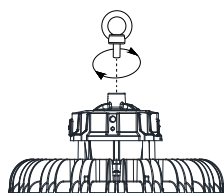

Figure 3
1. Please screw the lifting ring into the high bay light fixture, then tighten firmly. ( Figure 3)